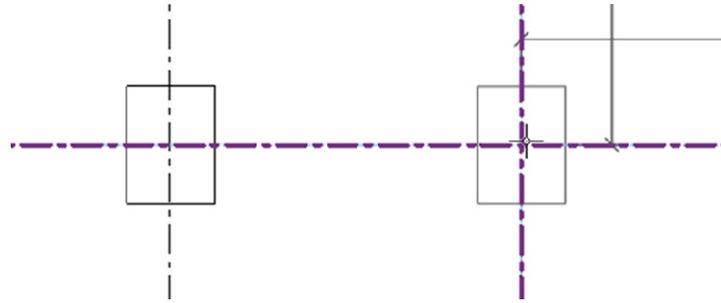

**Figure 7–12**
5. Once the profile is complete, click  (Finish Edit Mode) in the Mode panel. The footing now follows the new profile as shown on the right in Figure 7–12.